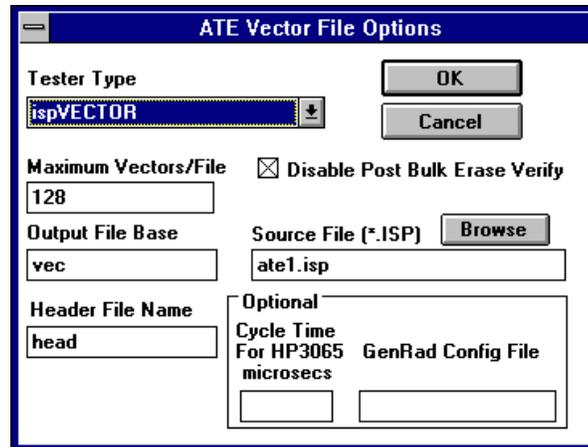

Figure 3-26. Filling in the ATE Vector File Options Dialog Box
6. Enter the header file name in the Header File Name field. Type **head** (Figure 3-26).
- **Base File Name of ATE File**—Includes the base file name of the vector files you want to simulate. Enter a name that is six characters or fewer. The IDCD software assumes your vector file is located in your current working directory. Type in the same base file name that you used in the Output File Base field in Figure 3-26 (**vec**). Only ispVECTOR files can be used.